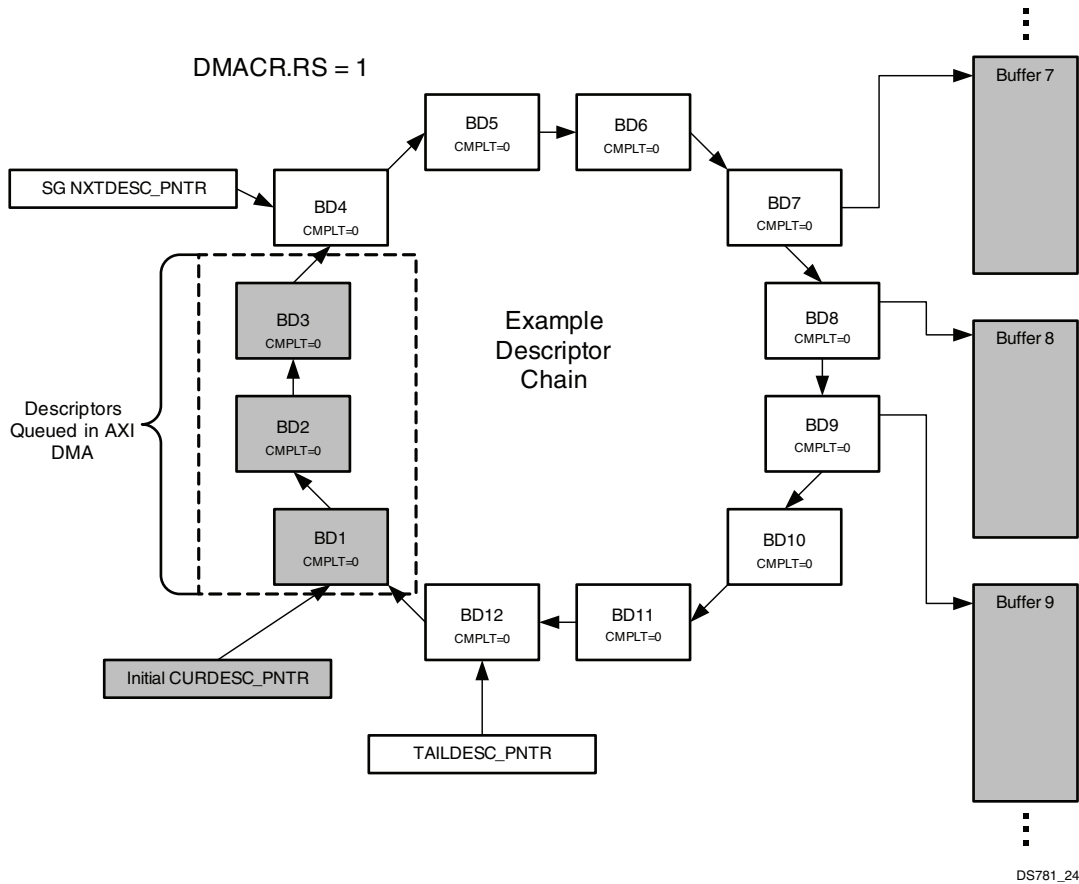

Figure 4-13: Beginning Execution
2. Beginning execution (DMACR.RS=1), as shown in Figure 4-13.